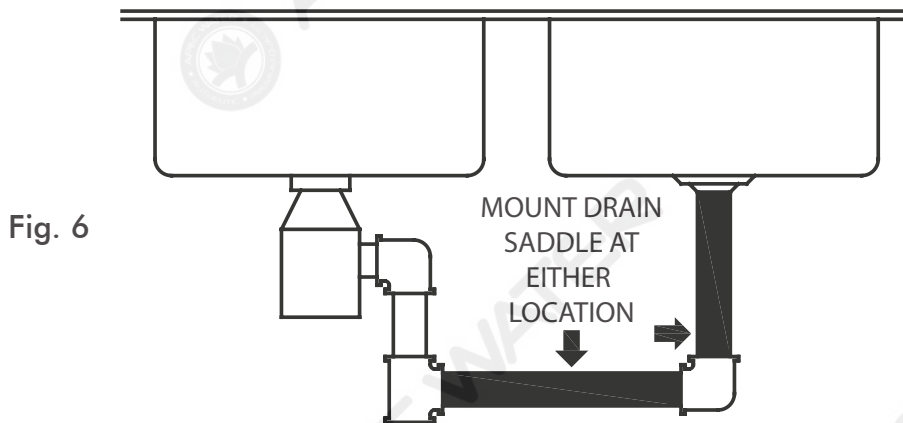

Fig. 6
1. **See Fig. 6.** The drain saddle assembly should be installed above the trap and on the vertical or horizontal tailpiece. To reduce the drainage noise, mount the drain line as low as possible above the trap, or on the horizontal tailpiece.